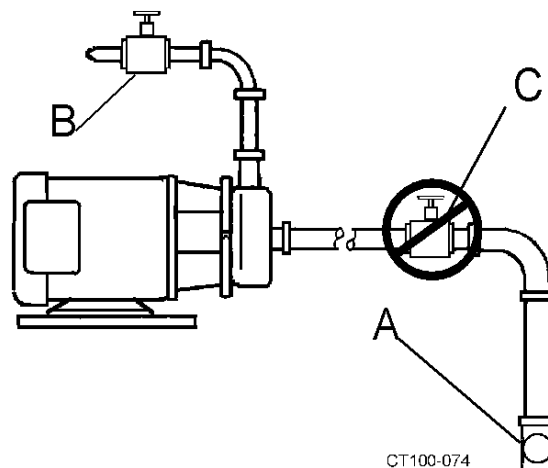

Figure 9 - Valve Piping Installation
- This pump is not self priming. If pump is installed above supply liquid level, install foot valve or other system check valve to keep system flooded for priming. (See Figure 9 item B).
- A throttling valve may be required to control pump flow rate to prevent motor overload. Always install throttling valve (See Figure 9 item A) in discharge piping and at least 10 diameters from pump outlet.
Never install throttling valve in supply piping. See Figure 9.